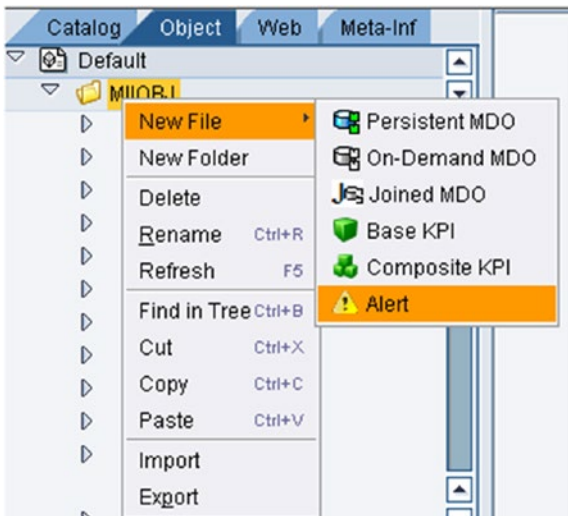

Figure 7-99. Selecting an Alert object
2. Right-click on any project folder and then choose New File ► Alert. See Figure 7-99.